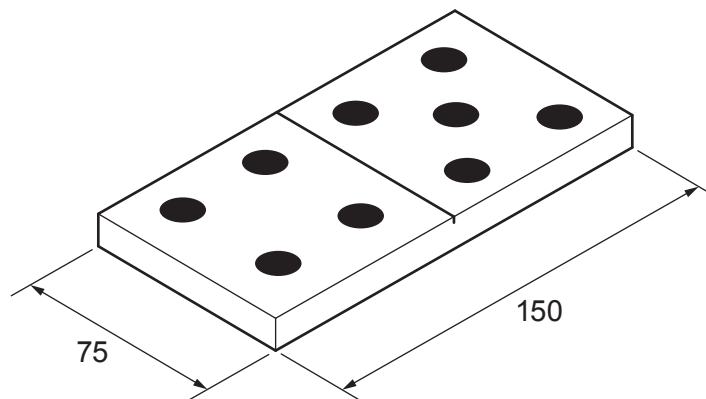

Fig. 12.4
- (e) Fig. 12.4 shows one domino. Each set of numbers is represented by dots.